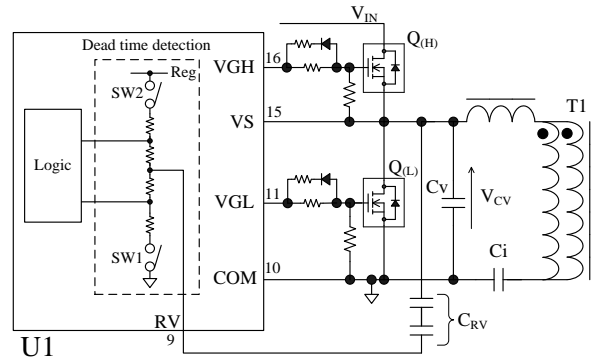

Figure 8-19 RV pin peripheral circuit and dead time detection circuit
Figure 8-19 shows the RV pin peripheral circuit and the internal dead time detection circuit. The external components for this function is only high-voltage ceramic capacitor, C_{RV} , connected between the VS pin and the RV pin. The value of C_{RV} is about 5 pF.
After $Q_{(L)}$ turns off, SW2 is turned on while SW1 is kept on state. The resonant current flows through C_V , C_i and $T1$ (refer to Figure 8-19) and the C_V voltage, V_{CV} , increases from 0 V. When V_{CV} becomes Equation (11), the resonant current flows through the body diode of $Q_{(H)}$ and V_{CV} is clamped $V_{IN} + V_{F(H)}$. The period that until V_{CV} is clamped after V_{CV} starts to increase is defined as the voltage resonant period.
• **Q_(H) turns off**
After Q_(H) turns off, SW1 is turned on while SW2 is kept on state. The resonant current flows through C_V, C_i and T1 (refer to Figure 8-19) and the C_V voltage, V_{CV}, decrease from the input voltage, V_{IN}. When V_{CV} becomes Equation (12), the resonant current flows through the body diode of Q_(L) and V_{CV} is clamped - V_{FL}. The period that until V_{CV} is clamped after V_{CV} starts to decrease is defined as the voltage resonant period.